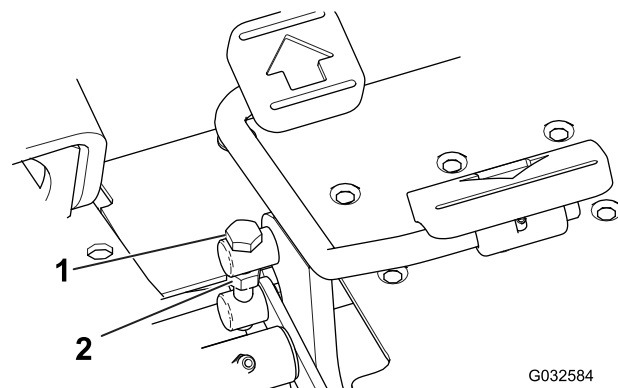

Figure 49
1. Loosen the jam nut on the trunnion bolt on the side of the traction pedal (Figure 49).